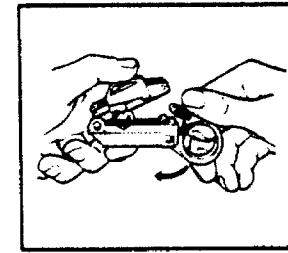

Figure 17
- A. Open the tool by rotating locking latch downwards (Fig. 17).